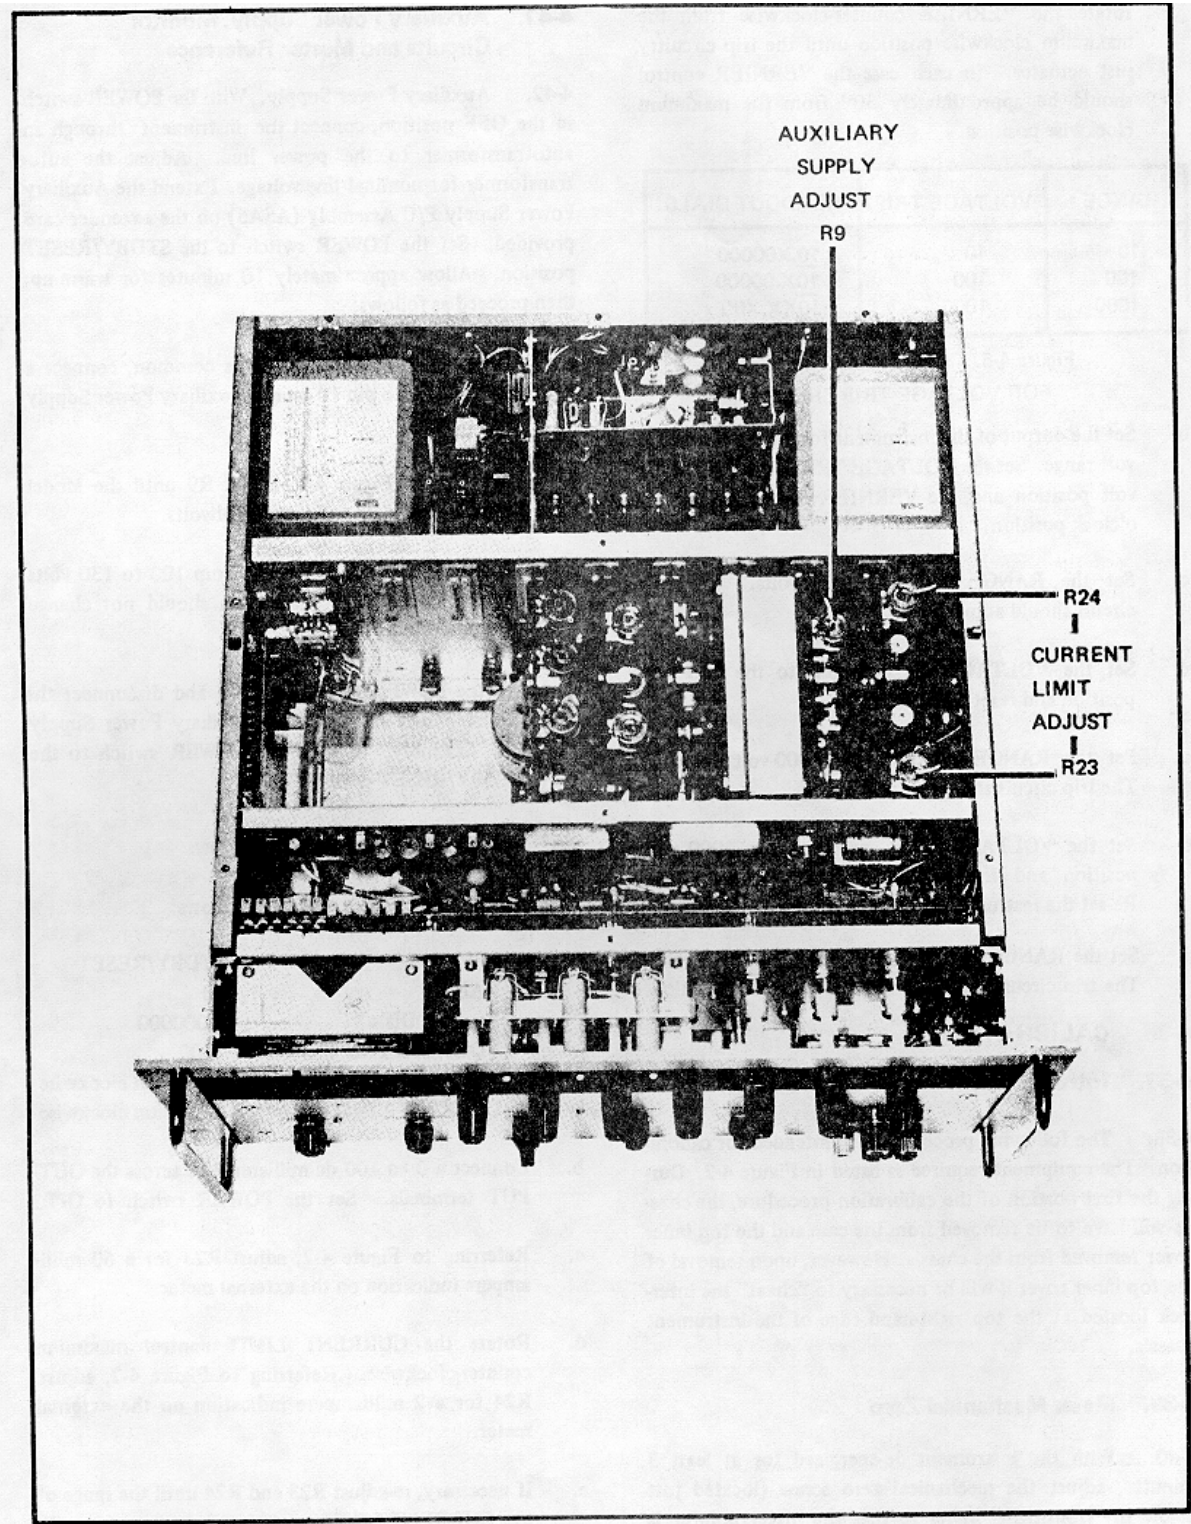

Figure 4-7. LOCATION OF ADJUSTMENTS
- Referring to Figure 4-7, adjust R9 until the Model 885A indicates 25 volts,  $\pm 10$  millivolts
- Referring to Figure 4-7, adjust R23 for a 60 millampere indication on the external meter.
- Rotate the CURRENT LIMIT control maximum counterclockwise. Referring to Figure 4-7, adjust R24 for a 2 millampere indication on the external meter.